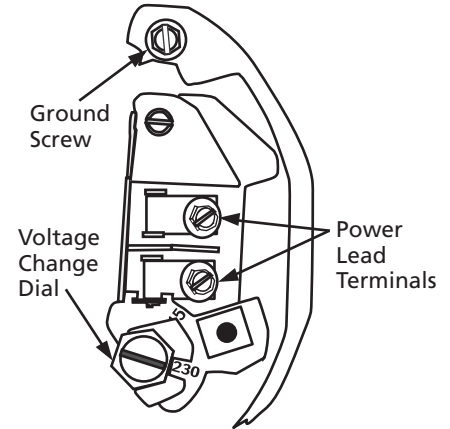

Figure 4 – Voltage set to 230 volts, Dial Type
2. Turn the dial counter-clockwise until 115 shows in the dial window (See Figure 4).